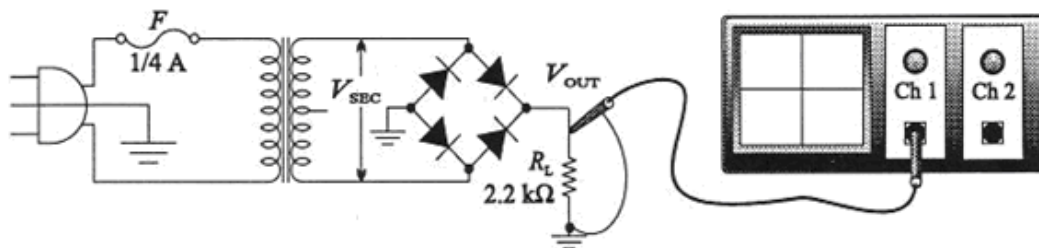

Figure 1. Measuring the rectifier output voltage
2. Q1) Predict the full-wave rectifier output voltage $V_{out(p)}$ using the $V_{sec(p)} = 12\sqrt{2}$ for the circuit shown in Figure 1 and fill in Table 1. Note that there are two diodes involved in each power cycle.
Note: the oscilloscope should not be used to view both the secondary voltage (V_{sec}) and the output voltage (V_{out}) in the Figure 1 at the same time as the ground terminals of the probes are internally connected together.